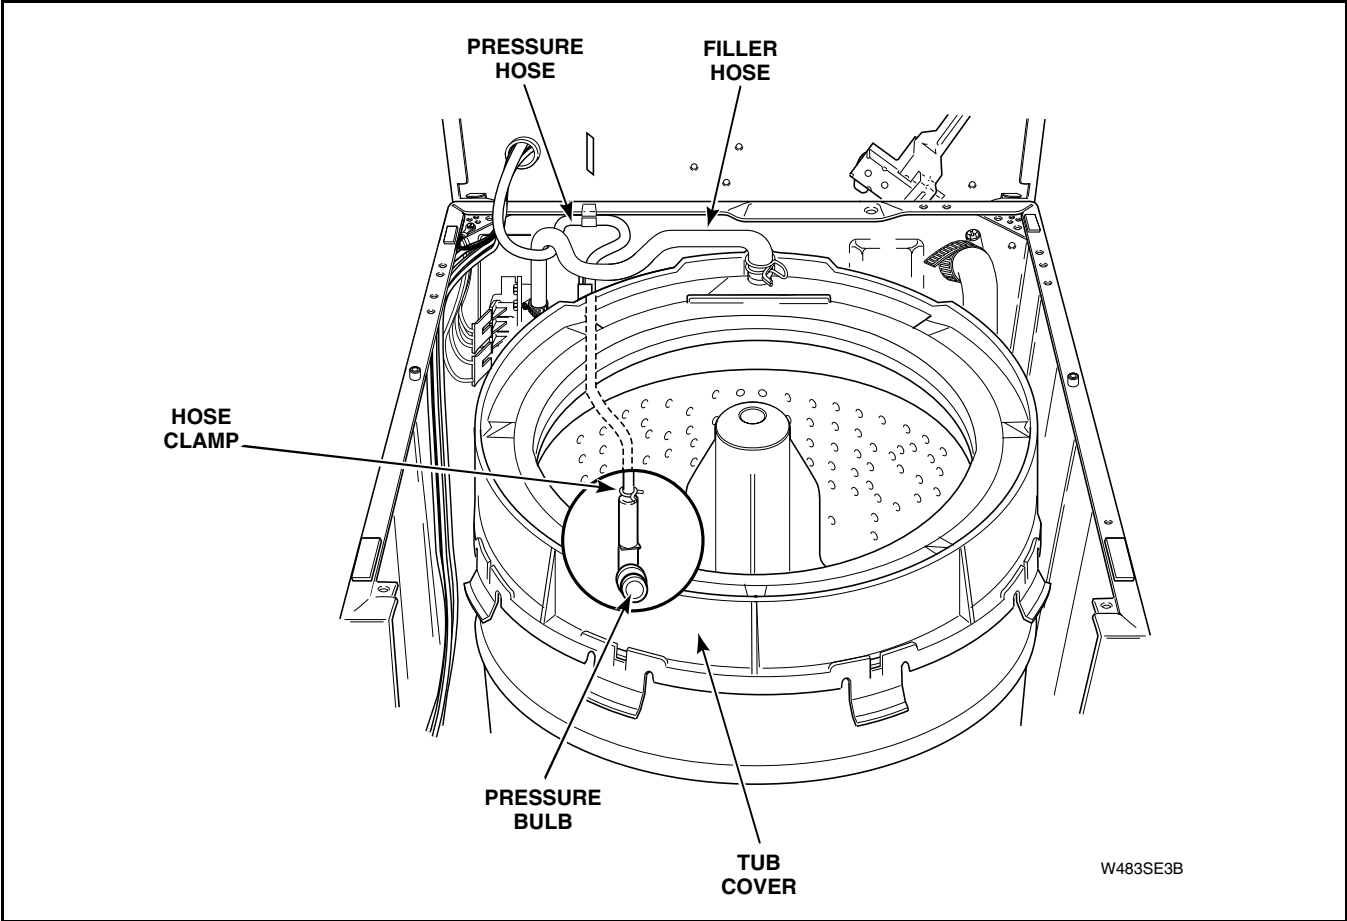

Figure 61
- Reconnect pressure hose to pressure bulb. Refer to *Figure 61*. Then connect filler hose to tub cover. Refer to *Figure 61*.
NOTE: When reinstalling filler hose, white line on hose must point toward front of washer. Refer to *Figure 61*. Make sure hose is in its natural position (not kinked or twisted). If hose is not, loosen hose clamp and straighten hose.